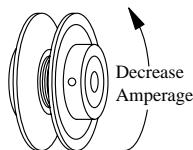

Fig. 6
• **Adjust pulley if necessary.** If amperage draw is less than motor rating, turn off electrical power and remove inspection panels. Unplug motor inside cooler, this will protect you from someone turning on unit while you are working inside. This should be done for your safety. Adjust pulley to a larger diameter and readjust belt tension, plug motor in, install inspection panels, and retest amperage draw. Repeat this process until correct amperage draw is attained. Increasing motor pulley diameter increases amperage draw. Decreasing motor pulley diameter decreases amperage draw (see Fig. 6).